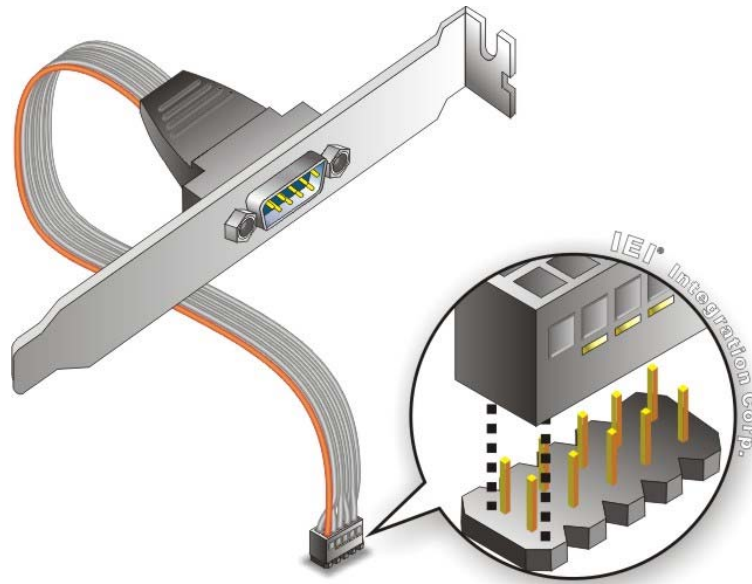

Figure 4-21: RS-232 Cable Installation
- Step 3: Insert the cable connectors.** Once the cable connector is properly aligned with the serial port connector on the WAFER-KBN-i1, connect the cable connector to the on-board connector. See **Figure 4-21**